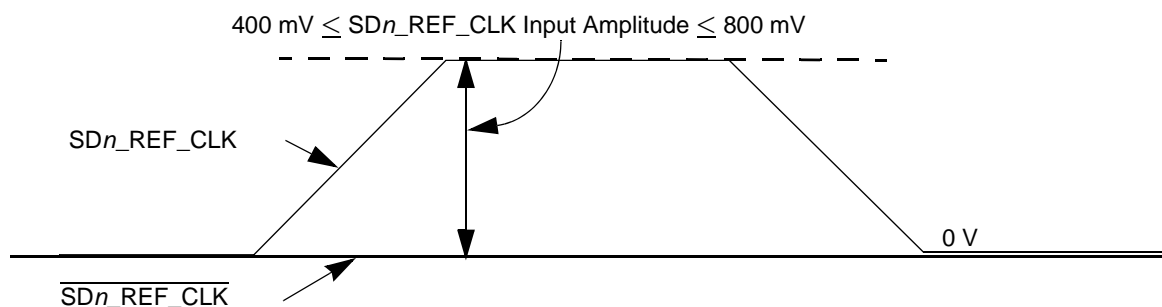

Figure 47. Single-Ended Reference Clock Input DC Requirements
- The SDn_REF_CLK input average voltage must be between 200 and 400 mV. Figure 47 shows the SerDes reference clock input requirement for single-ended signaling mode.